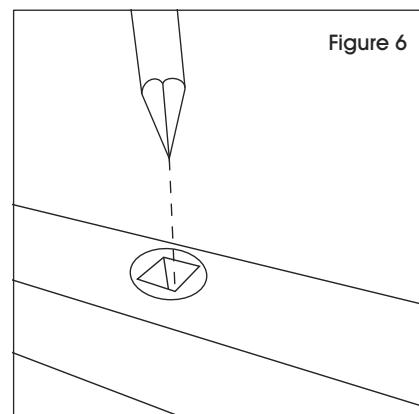

Figure 6
8. To install the sign holder, place the pointed end into the center hole on the top crossbar. To change the direction it faces, remove, rotate 90° and reinser the sign. (See Figure 6)